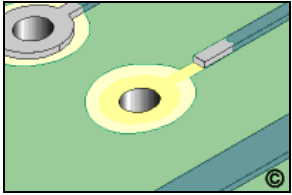

Figure 1: Remove the defective land and soldermask from the connecting circuit.
1. Remove the defective land and a short length of the connecting circuit, if any. (See Figure 1)
3. Scrape off any solder mask or coating from the connecting circuit and clean the area. (See Figure 1).